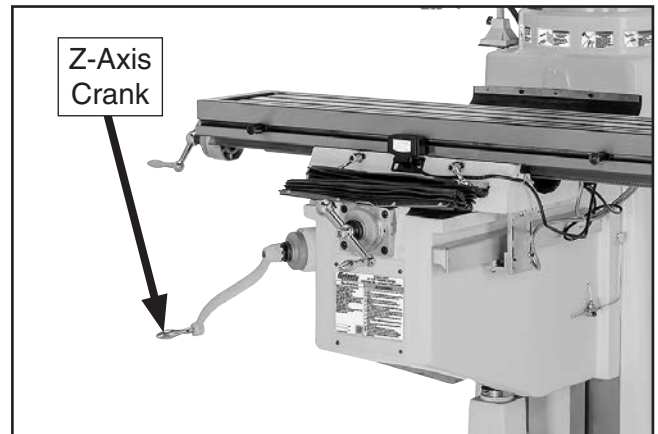

Figure 19. Z-axis crank installed.
3. Slide Z-axis crank onto end of Z-axis leadscrew, as shown in **Figure 19**.